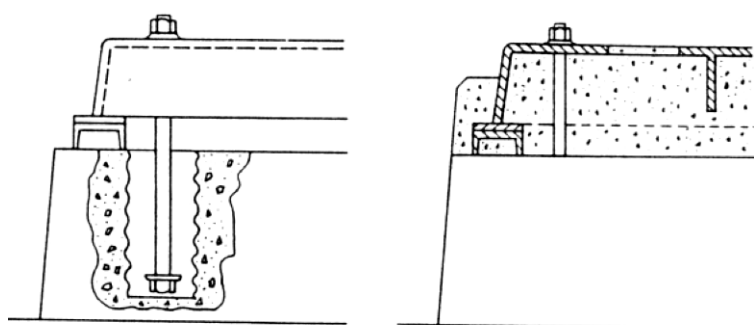

fig. 3
- casted or welded bed-plate with foundation screws fig. 3